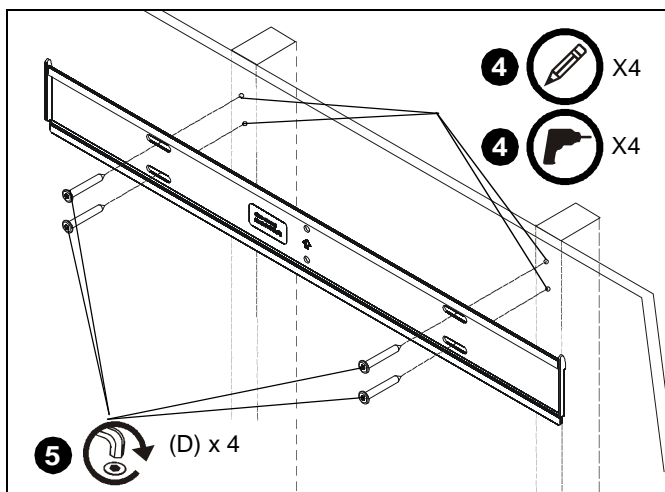

Figure 2
4. Using wall plate as template, mark and then drill four 3/16" diameter pilot holes through making sure the holes are centered in the middle of each stud. Holes must be drilled at least 2-1/4" deep. (See Figure 2)
5. Install four connector screws (D) through wall plate and into pilot holes using M4 Allen Head bit (C). (See Figure 2)